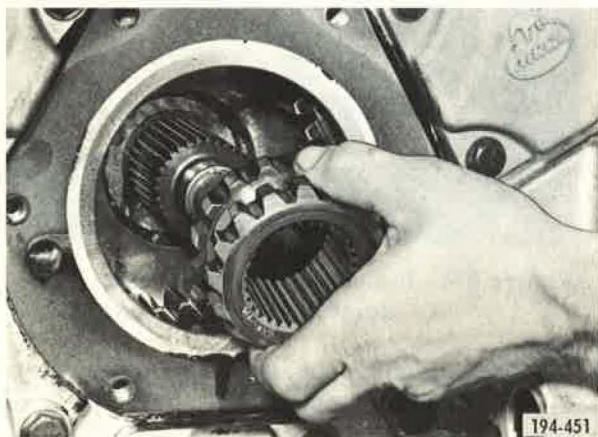

Figure 39. Installing Fourth/Fifth Speed Sliding Clutch
23. Install fourth and fifth speed sliding clutch on splines of pinion, and engage with fourth speed gear. See Figure 39.